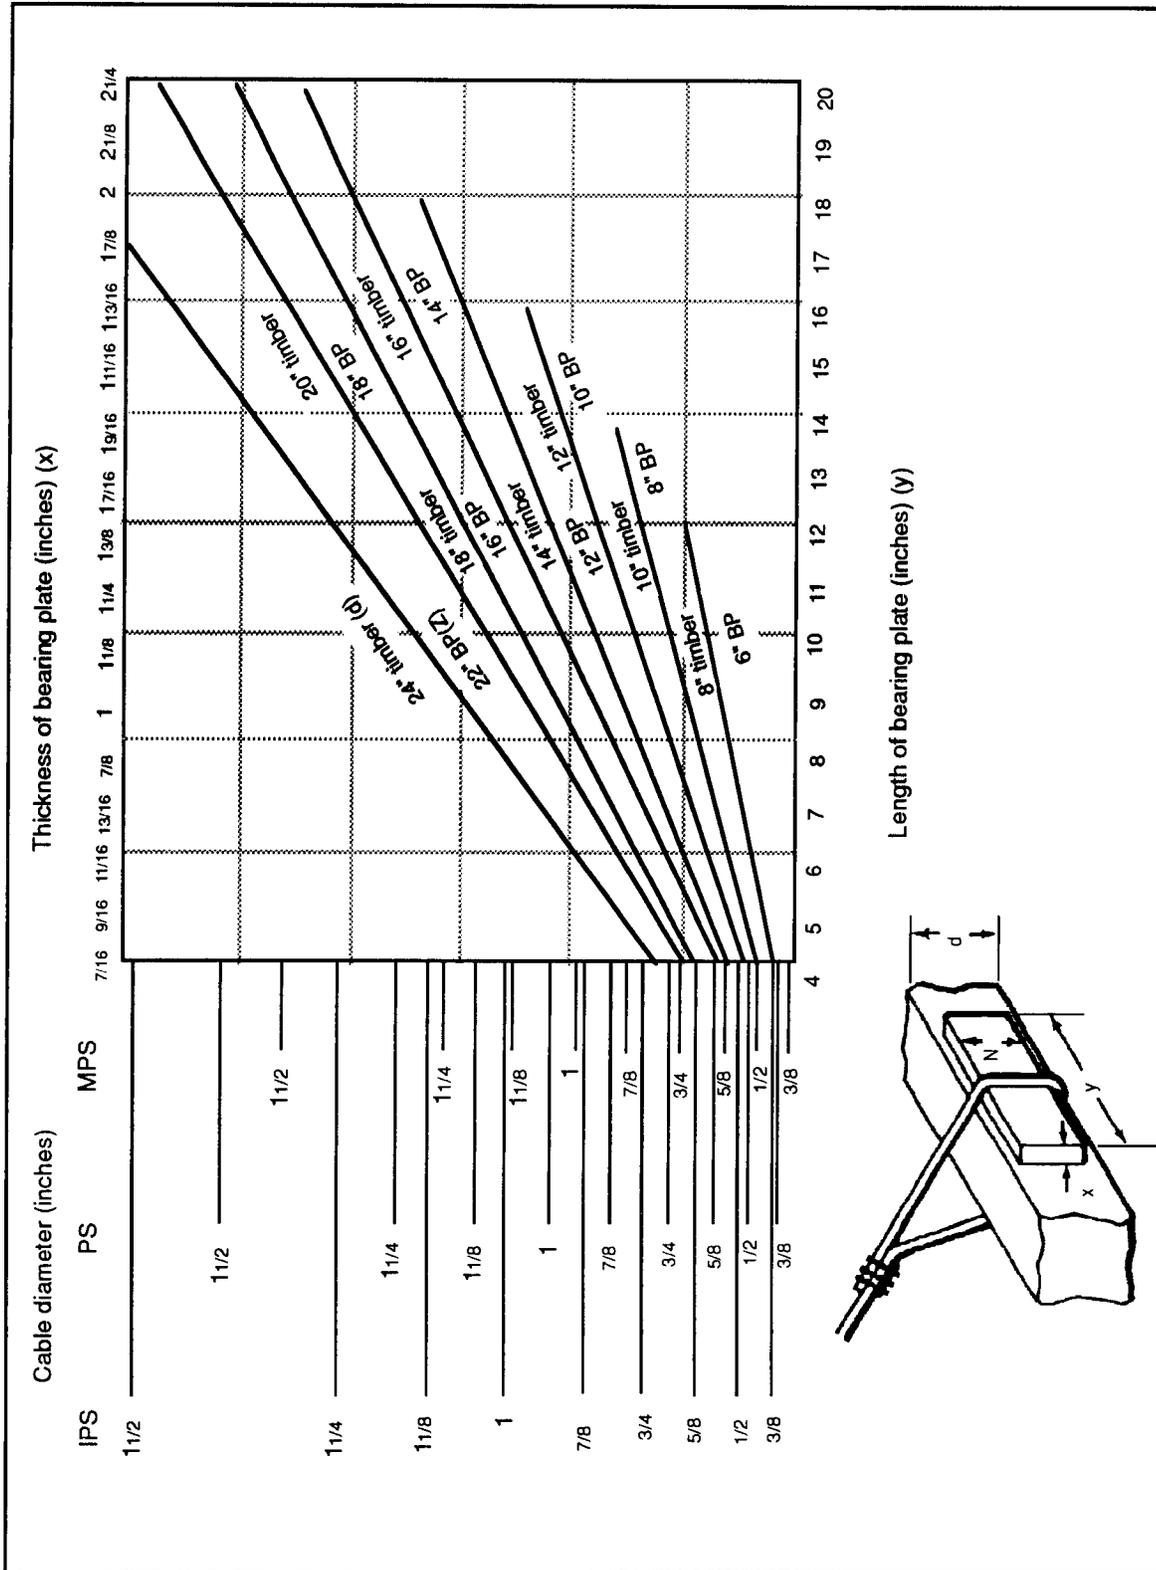

Figure 4-16. Designing a flat bearing plate for a regular deadman
- Solution: Enter the graph (see Figure 4-16, page 4-14) from the left of the 3/4-inch cable and go horizontally across the graph to intersect the line marked 12-inch timber, which shows that the plate will be 10 inches wide. (The bearing plate is made 2 inches narrower than the timber to prevent cutting into the anchor cable.) Drop vertically and determine the length of the plate, which is 9 1/2 inches. Go to the top, vertically along the line to where it intersects with 3/4-inch cable, and determine the minimum required thickness, which is 1 1/16 inches. Thus, the necessary bearing plate must be 1 1/16 inches by 9 1/2 inches by 10 inches.